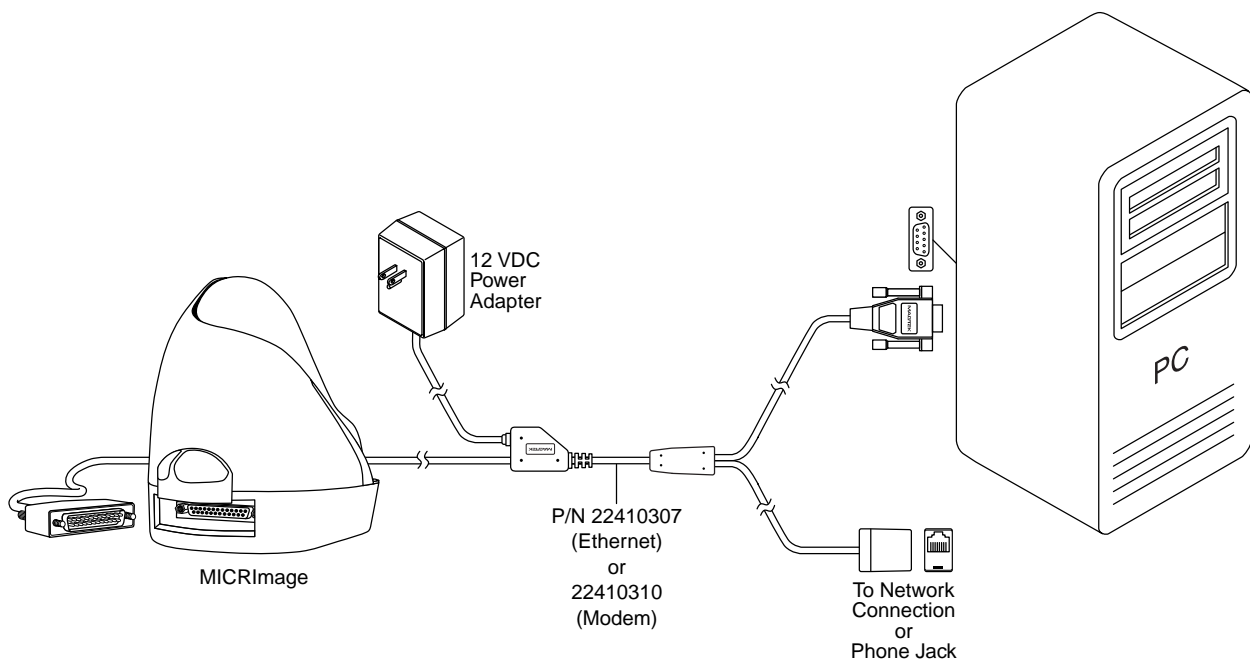

Figure 2-5. Cabling – PC and Ethernet or Modem Connection
3. Connect RJ45 Jack to the network connection as indicated in Figure 2-5.
For a PC and Network connection, install the MICRImage cables as indicated in Figure 2-5.